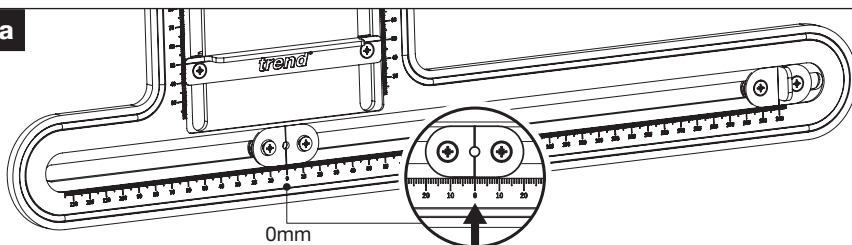

Fig. 14b
- Tighten the Drill Guide M4 Machine Screws (Fig. 14b).